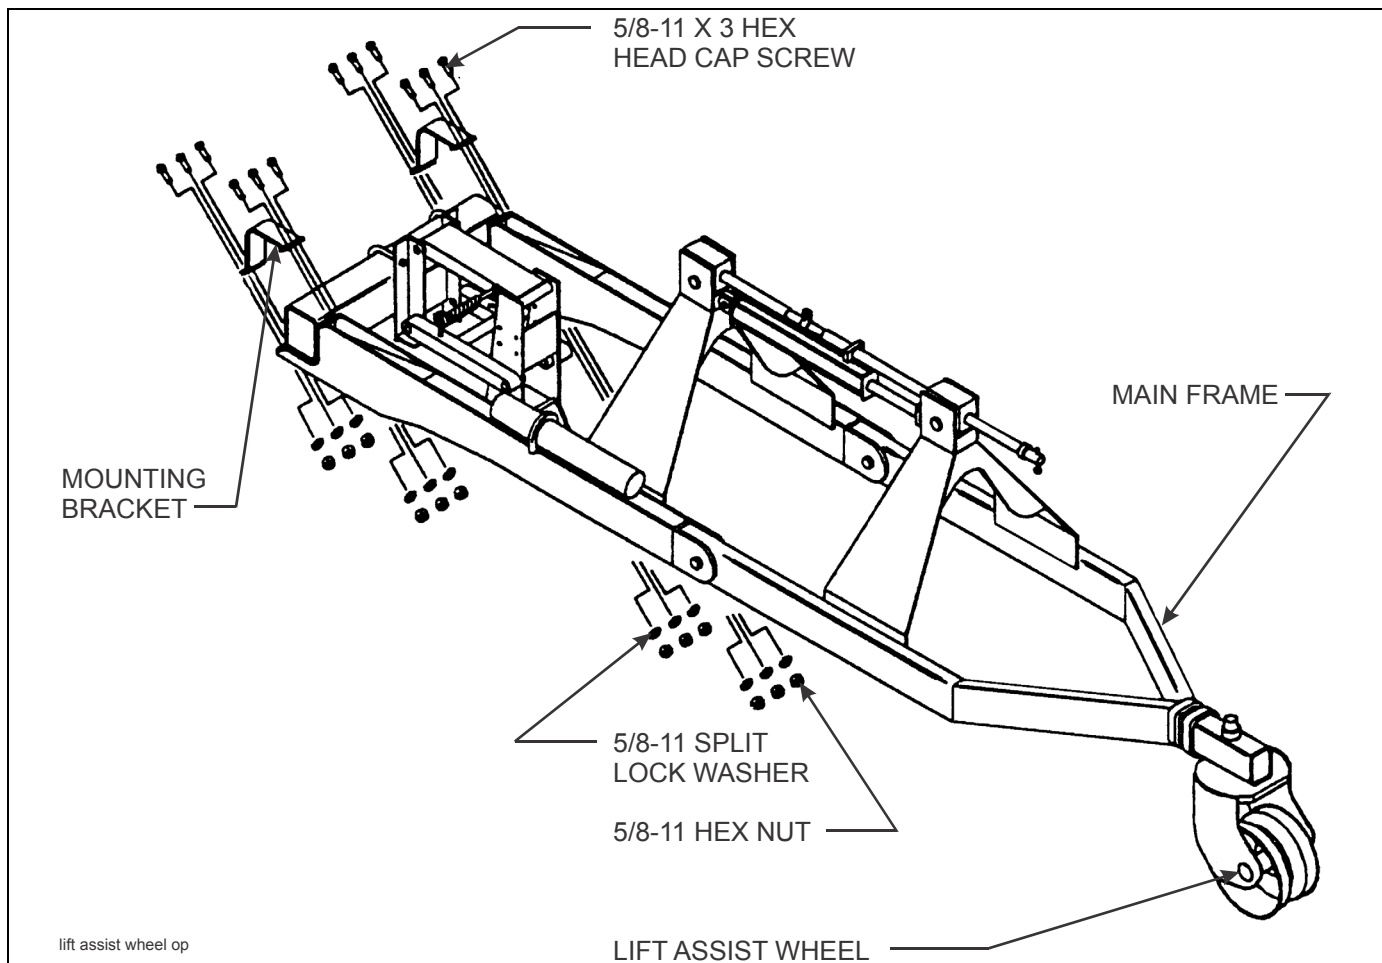

Figure 3-8: Lift Assist Wheel Installation
1. Place the base of the lift assist wheel frame against the main frame bar, straddling (on both sides of) the center tool frame assembly. Secure the assist wheel using the mounting brackets, 5/8-11 X 3 hex head cap screws, lock washers, and hex nuts that come with the lift assist wheel (**See Figure 3-8.**)